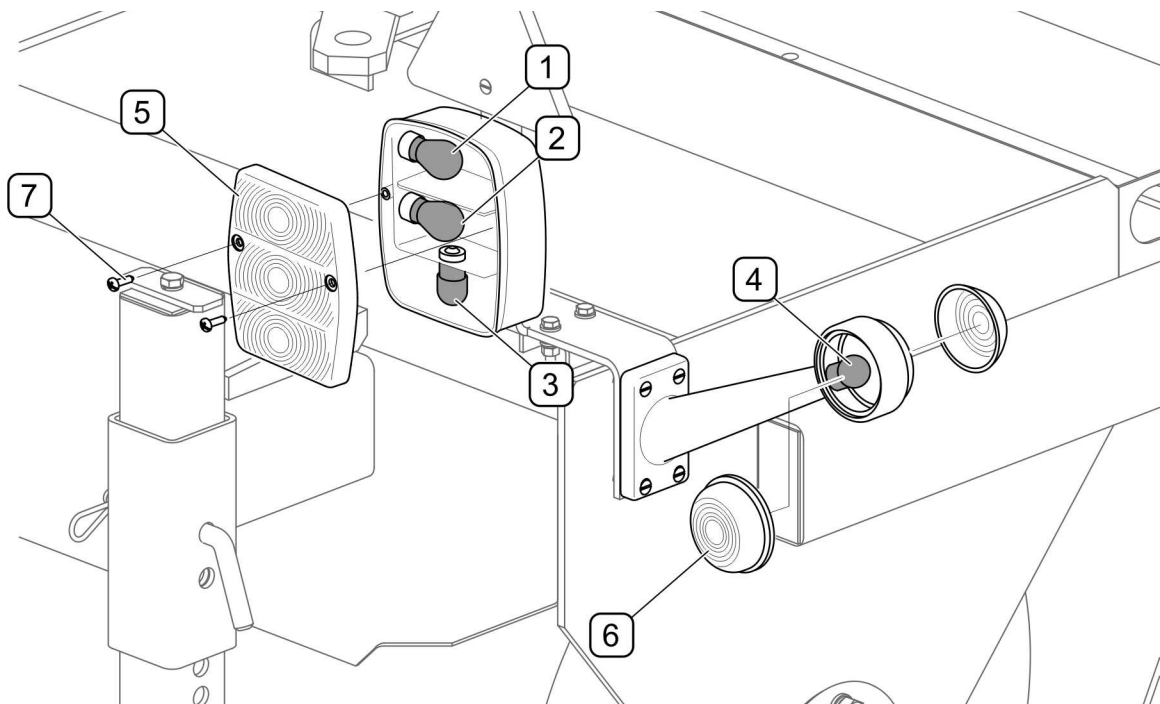

FIG. 5.11 Change bulbs
replace appropriate bulb (FIG. 5.11). To replace bulb of clearance lamp, take out lens (6) from flexible housing.
If sprinkler electrical system fails, first check water level in the tank and if filters (FIG. 5.11) are clean and the correct connection of the control cable with the switch and water pump power cable.